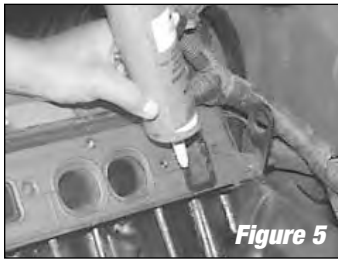

Figure 5
1. With the intake gaskets in place, apply a small amount of RTV High Temp silicone sealer around the water passages on the intake manifold side **(See Figure 5)**.